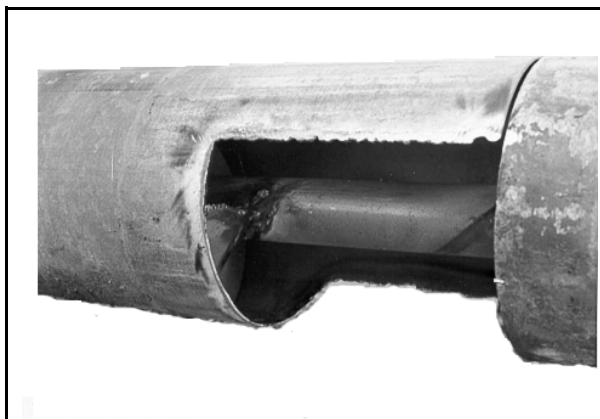

Figure 4B
2. Position the sensor connecting band on the discharge tube so that the rectangular hole is toward the discharge end. Mark the outline of the rectangular hole and the edges of the band on the discharge auger tube. Cut a hole in the discharge tube eight (8)" long so the outline of the rectangular hole is removed (stay inside the total overall length marks of the band). Cut up one side of the discharge tube about one third (1/3) of the way around the tube. This extra room is for ease of removing flighting in the next step. (See Figure 4B).